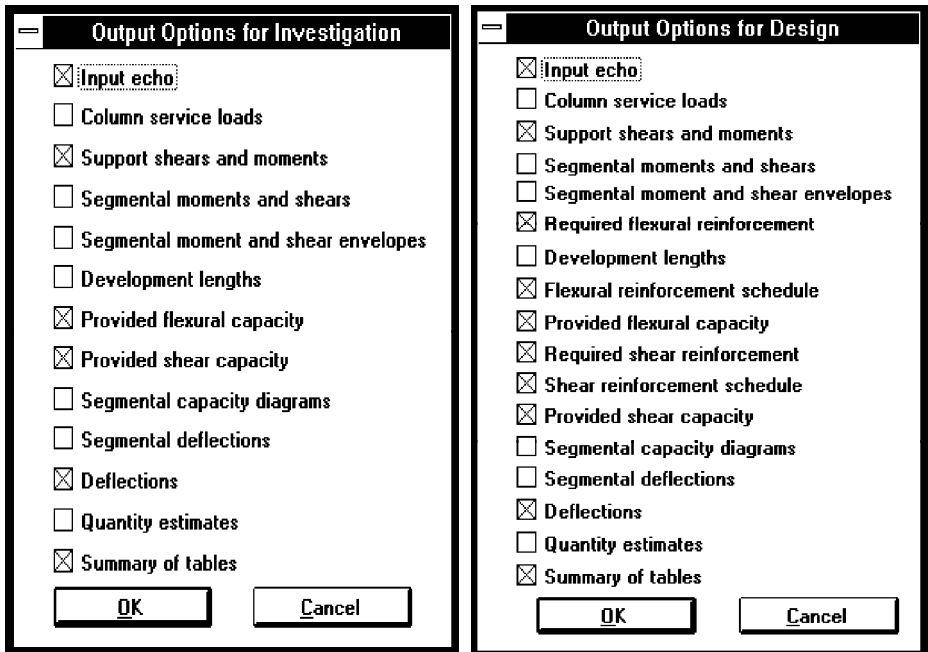

Figure 4-23 —The Output Options dialog boxes
- From the **Design** menu, select **Output Options**. Depending on the run option, one of two dialog boxes in Figure 4-23 appears.